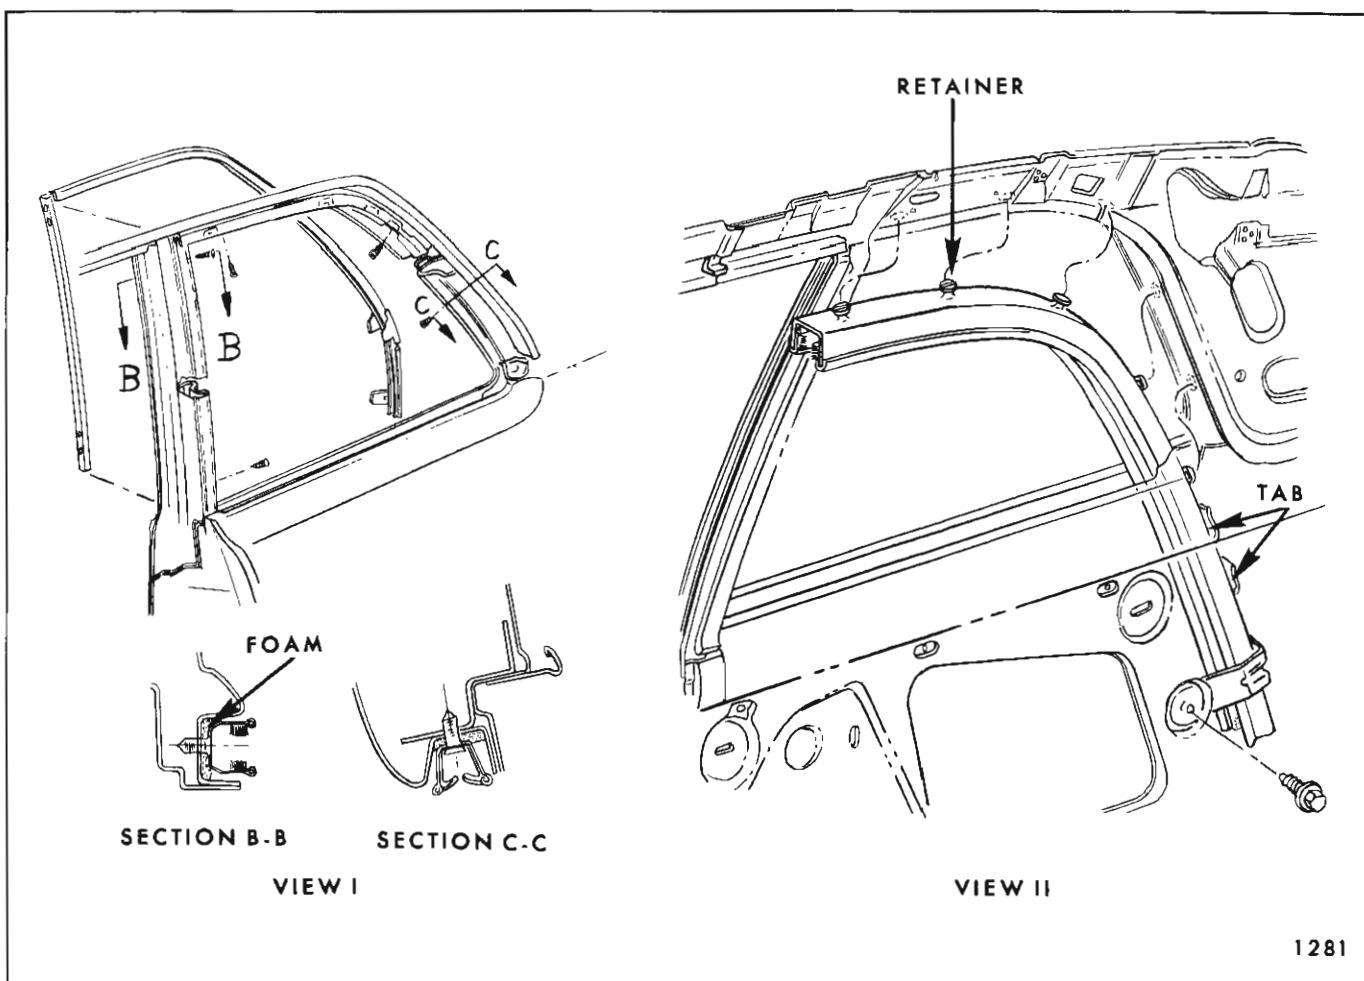

Fig. 2E26—Rear Quarter Window Glass Run Channels
- a. Operate window to "full up" position and loosen window regulator attaching screws (Fig. 2E24 for "11" styles, Fig. 2E25 for "27" styles).
- a. Loosen rear glass run channel attaching screw (Fig. 2E24 for "11" styles, Fig. 2E25 for "27" styles).